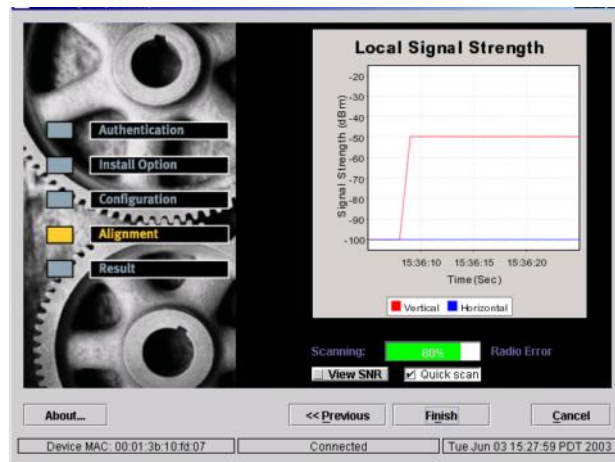

Figure 5-10 Alignment Window — Local Signal Strength Graph
17. When the restart is finished, the AIM will go into antenna alignment mode, displaying the Alignment Window shown in Figure 5-10.
When the Alignment Window is displayed (Figure 5-10), the ODU will begin slowly beeping. The beep is an audio indication of the strength of the signal received from the base station. As reception gets stronger (within the range from -50dBm to -100dBm), beeping increase in pitch and frequency, becoming a continuous tone when the signal is optimal.
18. For most situations, verify that Quick scan in the Alignment window is checked as shown in Figure 5-10. This will cause the PacketWave 200 to scan through frequencies and transmission variables such as gain more quickly than it would otherwise do. Generally, Quick scan should be unchecked only when there are multiple frequencies (AFS) or the SU will be connected to more than one BSU/WSS for backup.
- a. While viewing the graph shown in Figure 5-10, move the antenna to maximize the signal strength as shown on the graph. Values greater than -82 dBm will work in 16QAM. Values greater than -89 dBm will work in QPSK.